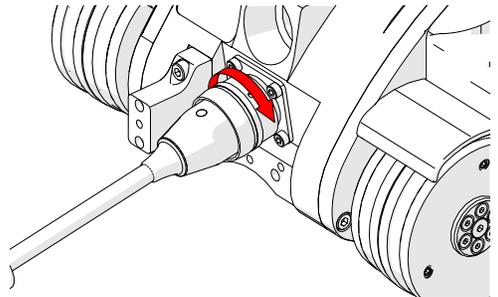

Fig. 90 - Align with crawler's umbilical mount
2. Twist the umbilical's sleeve clockwise locking the umbilical in place (Fig. 90).